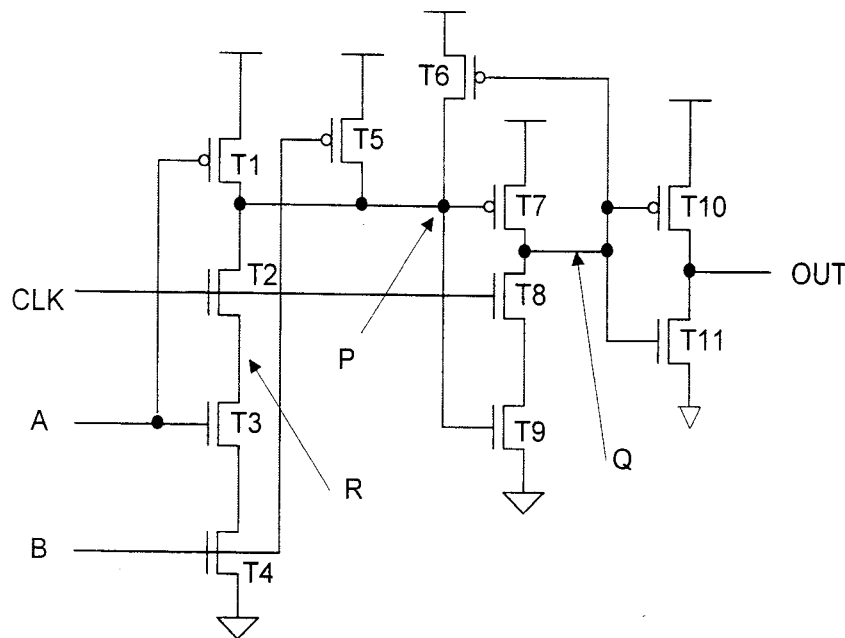
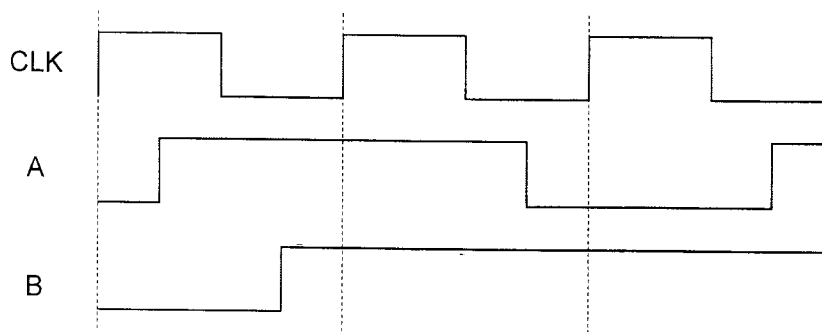

Figure 3.1
Figure 3.2
- b) Figure 3.1 shows the transistor level schematic of a standard cell design. It is known that T6 is a minimum sized transistor and all other transistors are appropriately sized. Given that the timing diagram for the input signals CLK, A and B is as shown in Figure 3.2, draw the timing diagram for the signals at P, Q, R and OUT. Label your timing diagram with the following four possible signal states: *driven low (DL)*, *driven high (DH)*, *charged low (CL)*, *charged high (CH)* and *don't know (XX)*.